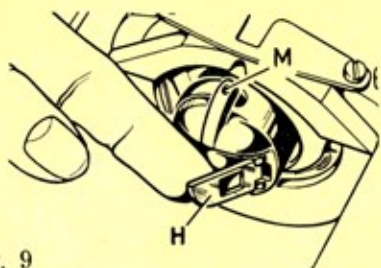

Fig. 9
- Insert bobbin case by latch « H » (Fig. 9) and place it on center stud of shuttle. Finger « M » must go into notch of shuttle ring;